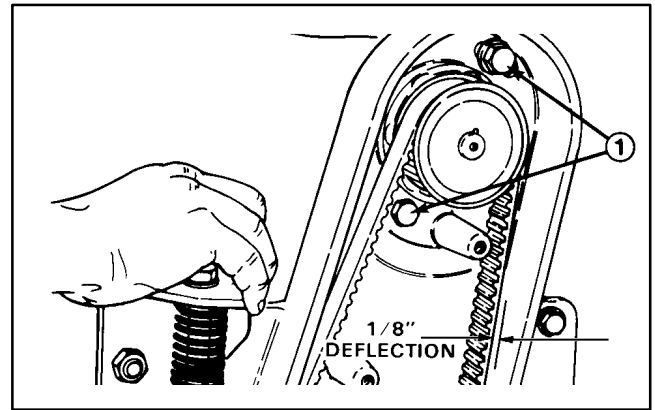

Figure 14
3. Insert the two (2) reel drive motor mounting bolts (heads on inside of the drive housing – flat washer on top bolt) through the reel motor flange holes. Thread the locknuts onto the bolts. Rotate reel motor upward in the slotted hole in the housing to tension the drive belt and tighten the fasteners (Fig. 14) to approx. 25 ft-lbs (34 Nm). NOTE: Proper belt tension is achieved when belt deflects approximately 1/8" (3 mm) at mid-point when 7 lbs. force is applied. (Fig. 14).